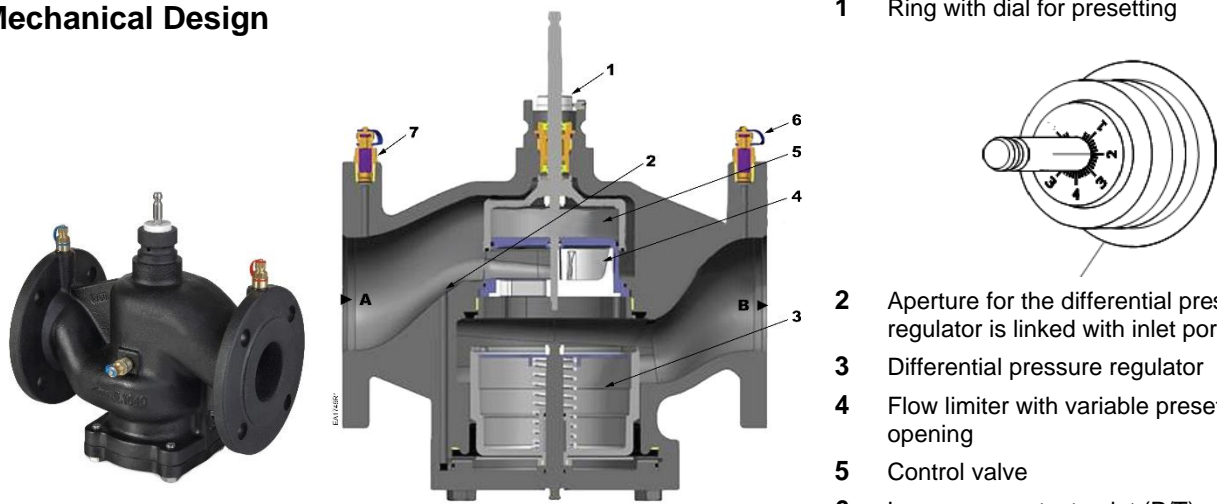
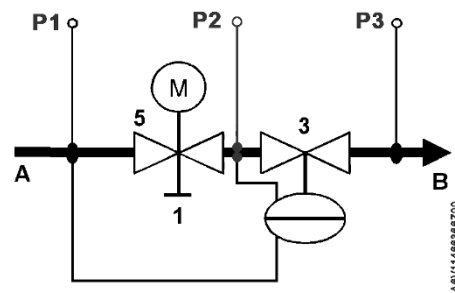

Figure 1. 599-0733X Series Valves.
Figure 3. 599-0733X Series Pressure Independent Control Valve Operation.
The 599-0733X Series PICV are equipped with three pressure test points (P1, P2, P3) for measuring and monitoring the differential pressure across the control valve and across the PICV during commissioning or for analysis during operation. See Figure 3.
The Pressure Independent Control Valves combine three functions (see Figure 3):
The medium entering the Pressure Independent Control Valve (inlet port A) first passes through the variable presetting opening (see Figures 1, 2, and 3) which is connected to the ring with a dial (1) for presetting the desired maximum volumetric flow. The actuator (M in Figure 3) opens and accurately positions the control valve. Then, the medium flows through control valve (5) with a linear characteristic.